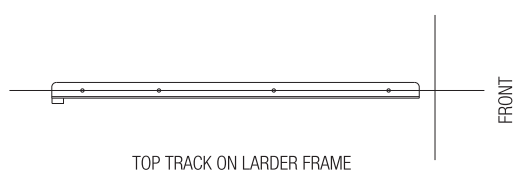

Fig. 3
3. Top track is fitted on top of frame as per Fig 3. with M4 x 25 hex. bolts.